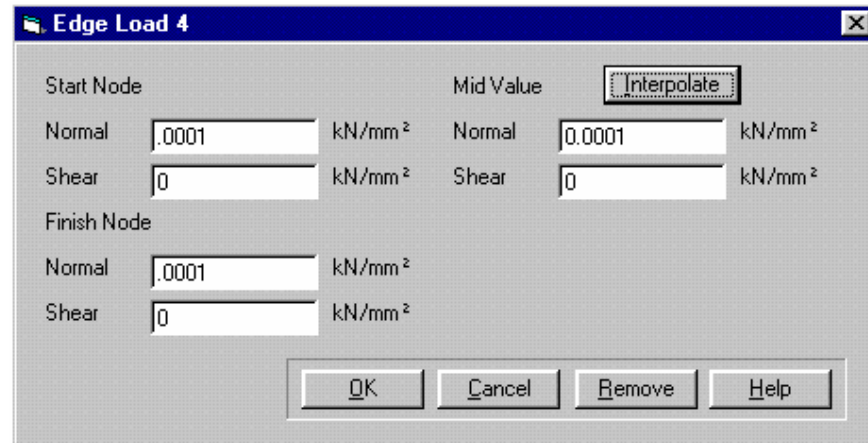

Figure 2-15: Loading the Top Edge
Step 6 The Edge Load dialogue box should look like Figure 2-15. Click on OK to exit once you have finished.